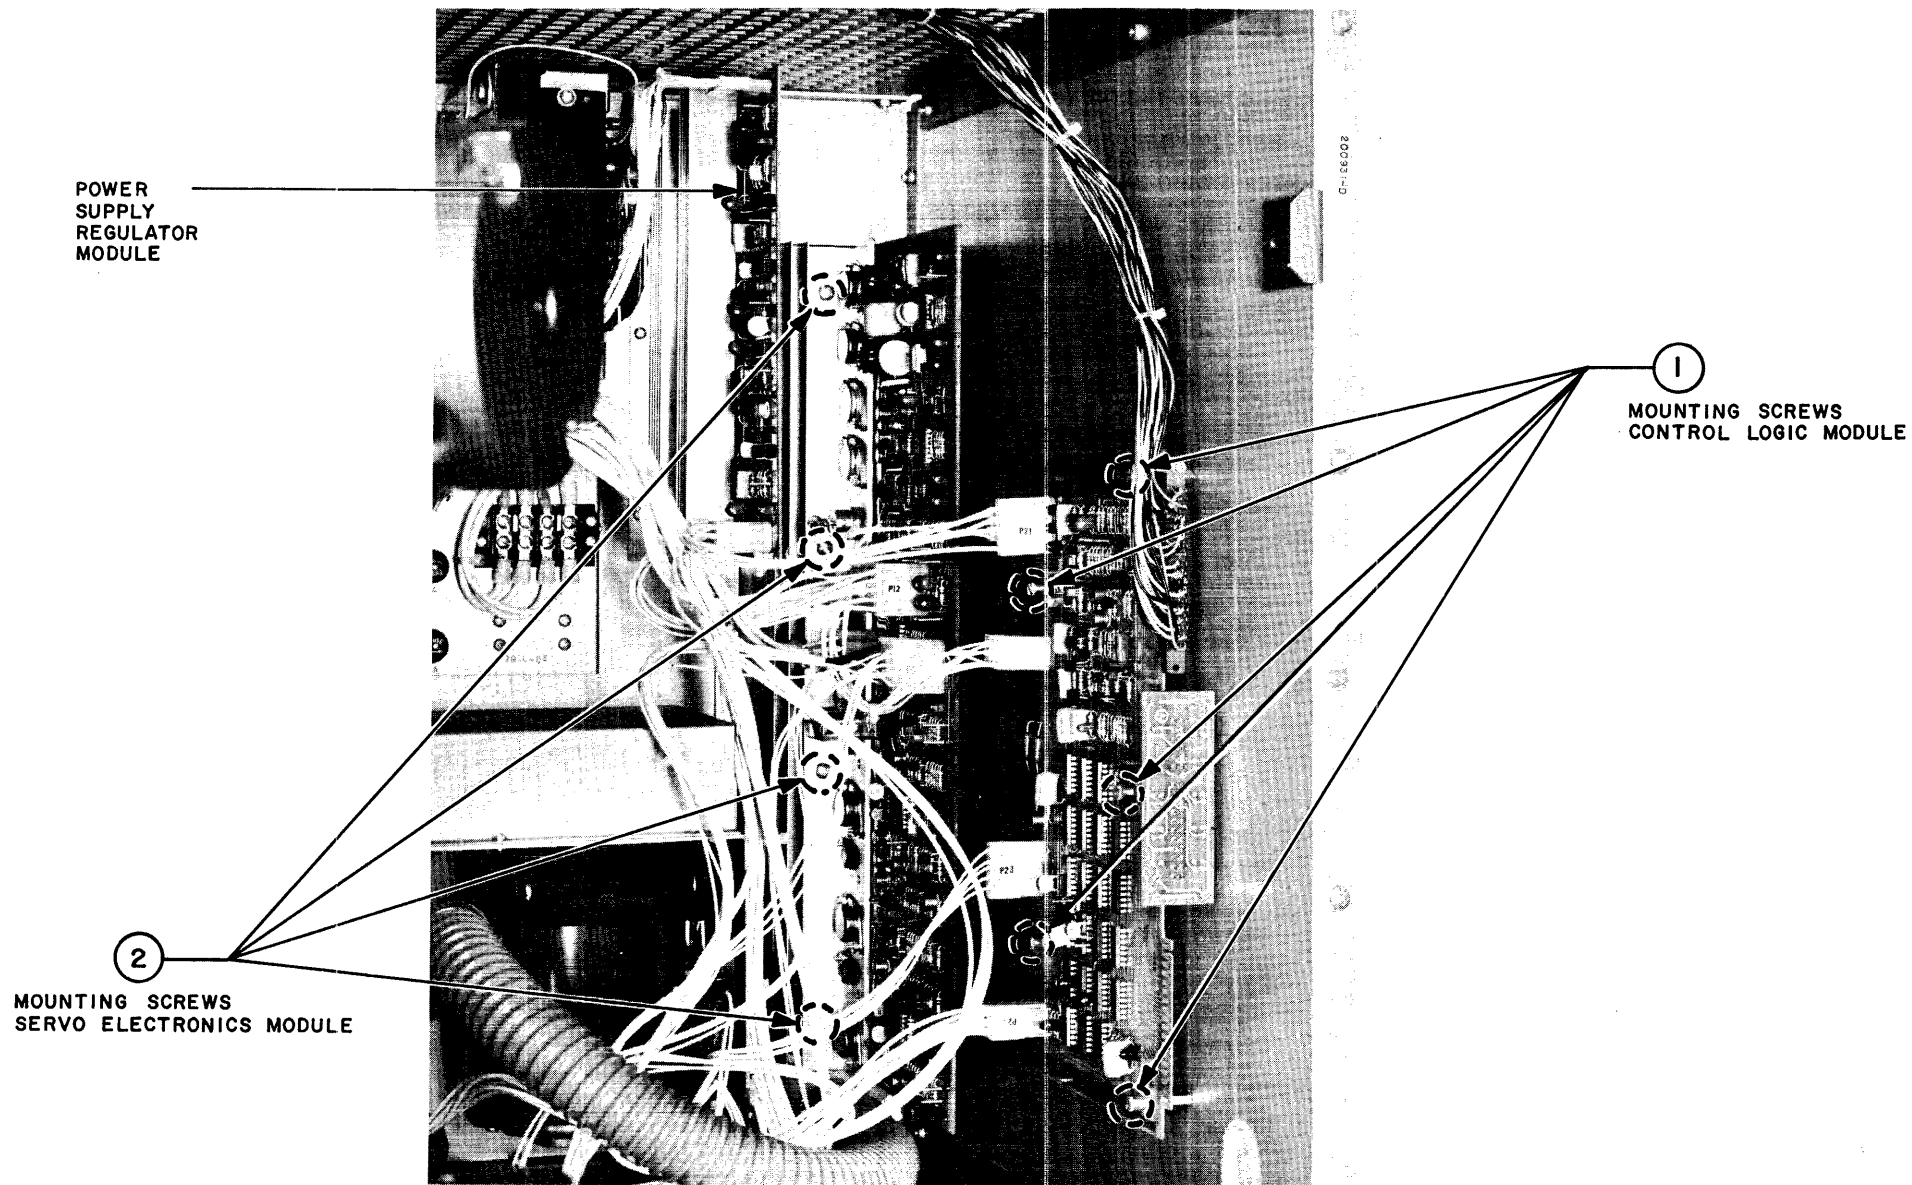

Figure 36. Transport Control Logic and Servo Electronics Module Replacement
The Transport Control Logic module can be removed by the following steps: (Refer to Figure 36.)
4. Remove the 5 captive screws (item 1, Figure 36). Be sure to support the assembly to prevent damage when the screws are removed. The module is now free to be removed.